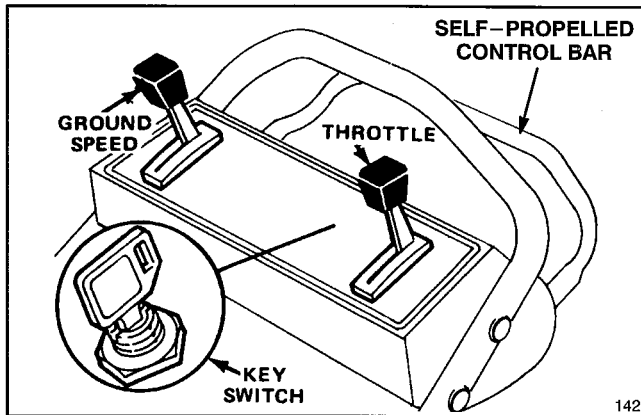
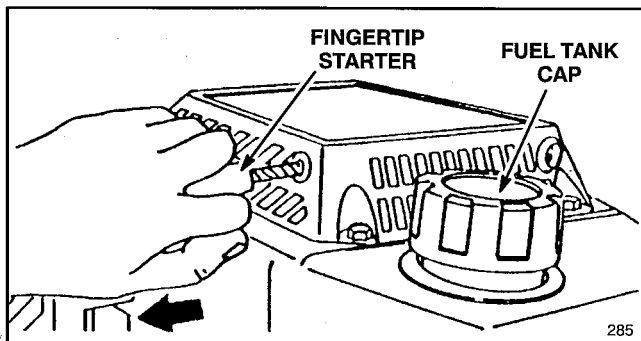

Figure 5
Figure 6
1. Clean around fuel tank cap (Fig. 6) and remove cap from tank. Do not fill tank full. Using unleaded gasoline, fill fuel tank to within 1/4" to 1/2" (6 to 13 mm) from top of tank, not into the filler neck. This space is for expansion of fuel.
1. CONTROLS—Key switch (electric start model only), ground speed control, throttle, and blade/self-propelled control bar are on upper handle (Fig. 5). Fingertip starter is on top of engine (Fig. 6).
4a. KEY-ELECTRIC STARTING (electric start model only)—Move throttle to CHOKE. Turn key to START and release when engine begins running. When engine starts, remove throttle from CHOKE and regulate engine speed between **F** (FAST) and **S** (SLOW). If the battery's charge is too weak to start the engine, the engine can be started with the fingertip starter (Fig. 6).
5. GROUND SPEED (Fig. 5)—Ground speed varies depending on distance between control bar and handle. The mower has three ground speeds: number "1" is slow, "2" is medium, and "3" is a fast walking pace. Move ground speed control to desired setting. Ground speed can be varied by increasing or decreasing distance between control bar and handle. Lower control bar to slow mower when making a turn or if mower is moving too fast for you. If you lower control bar too far, the mower will stop self-propelling. Squeeze control bar closer to handle to increase ground speed. When control bar is tight against handle, mower will self-propel at maximum ground speed. Move ground speed control to **N** (neutral) position when using the mower for trimming and whenever leaving mower.